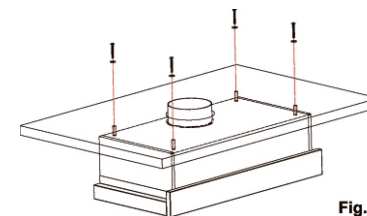

Fig.11
3. Insert 4 mounting screws with 4 mounting gaskets to fix the hood. (Fig.11)